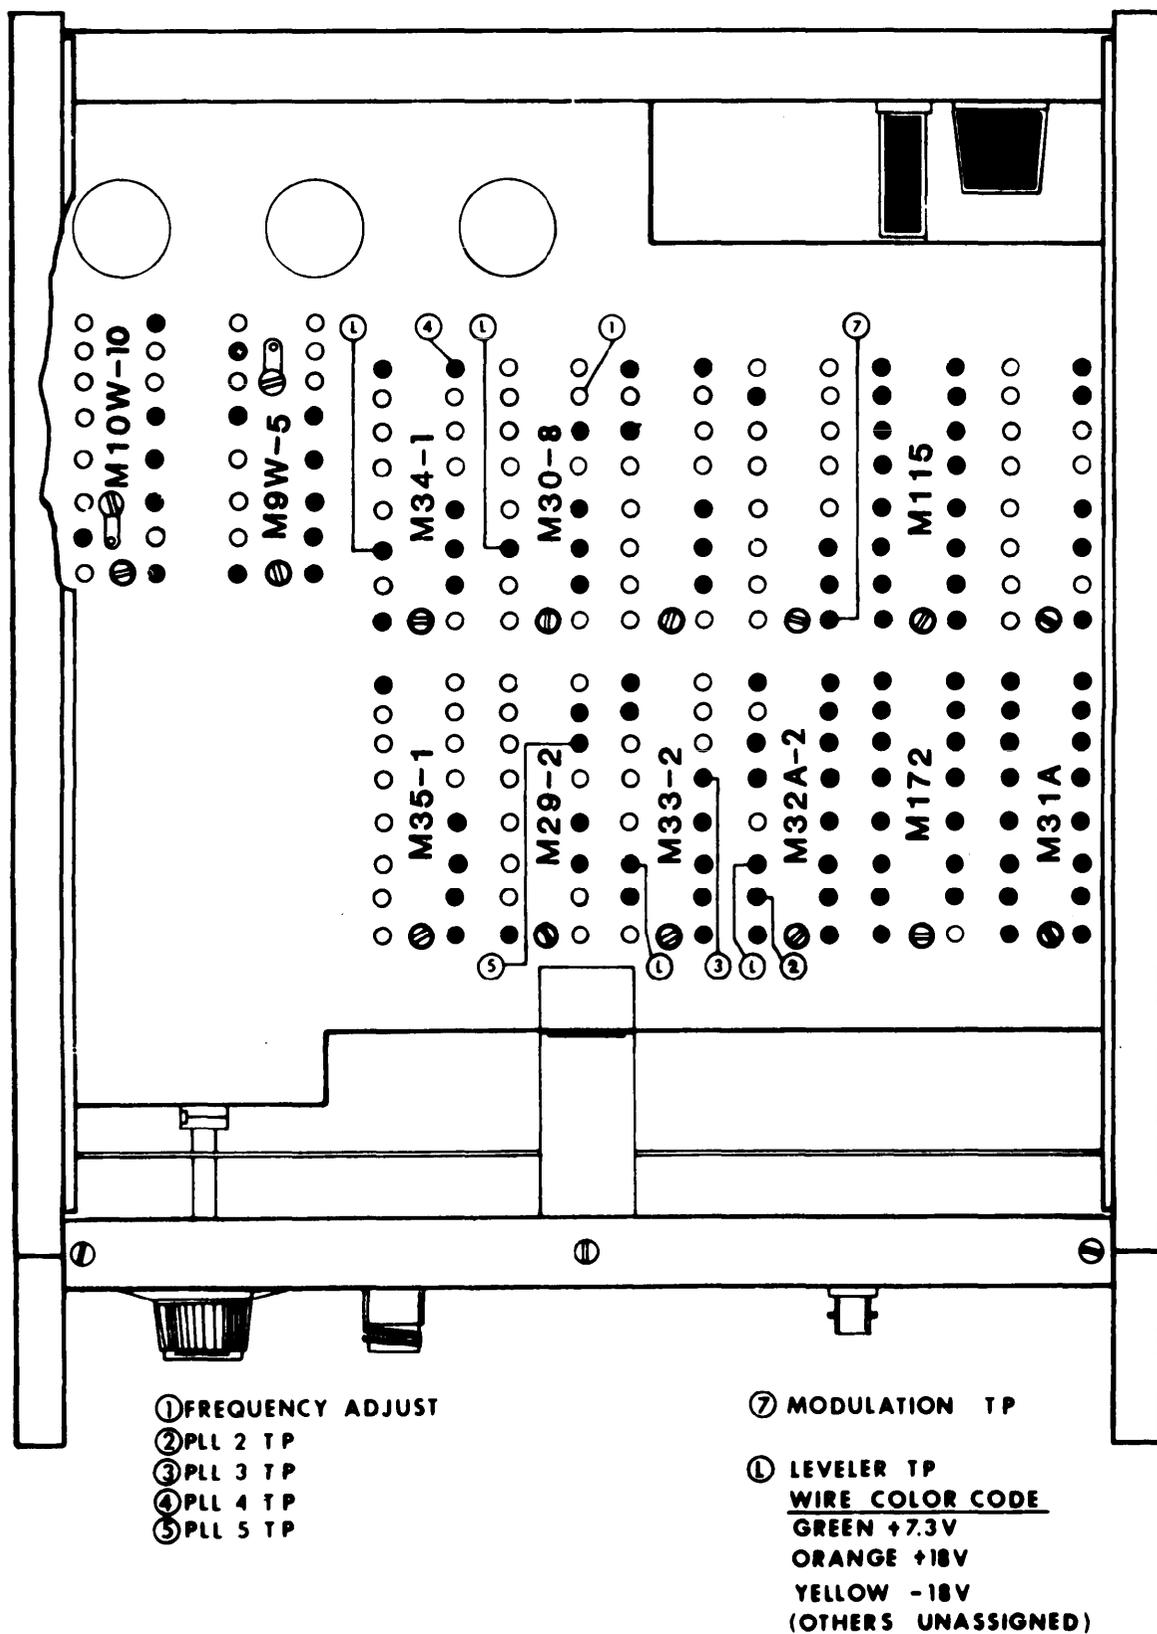
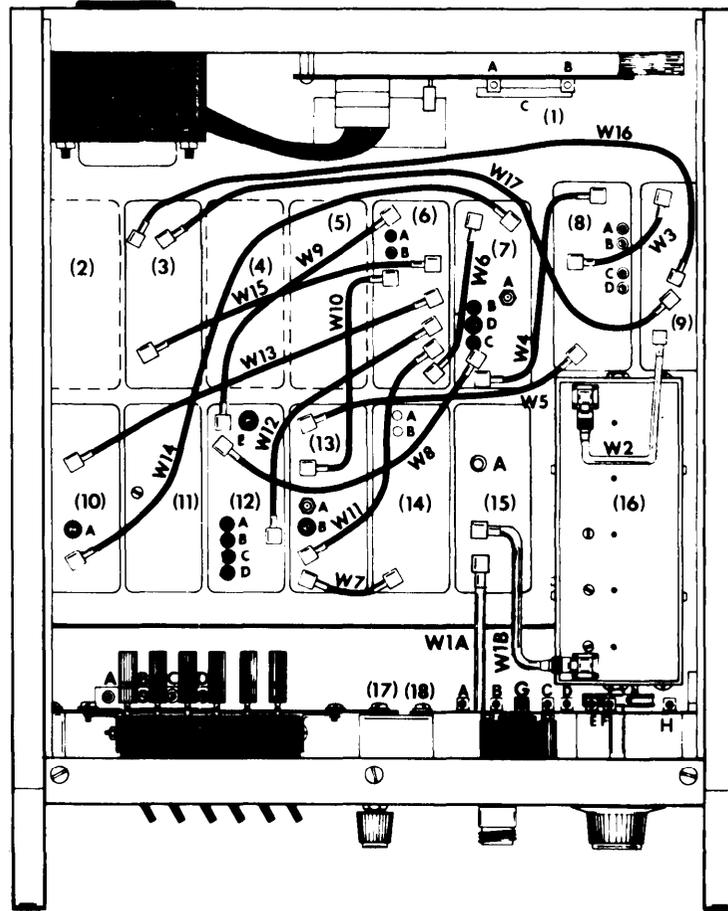

Figure 5-5. Bottom View
Figure 5-6. Top View
Adjust the M30-8 Frequency Adjust trimmer (Figure 5-5) for a minimum-frequency indication on the counter, then carefully turn the Frequency Adjust trimmer clockwise until the counter indicates the frequency selected by Lever/Indicator switches. Disconnect the counter from the RF OUT connector. A final frequency check will be covered in Section 5.3.12.
See Figure 5-5 for location of M32A-2 test points and Figure 5-6 for adjustment controls. Set the Lever/Indicator switches to 200.000 MHz and all other front-panel controls as in Section 6.3.4. Connect a digital voltmeter to M32A-2 pin 14. This voltage should be between +0.5 and +2.5 VDC. If it is not, carefully adjust both Crystal Reference trimmers (A and B) to produce a minimum reading on the voltmeter. Set the Lever/Indicator switches to 239.000 MHz and note that the DVM reading is still within the above limits.
PLL 3 consists of two modules, M33-2 and M9W-5. The test point is on module M33-2 (Figure 5-5), while the adjustment controls are on module M9W-5 (Figure 5-6). Set the Lever/Indicator switches to 250.000 MHz and all other front-panel controls as in Section 5.3.4. Connect the scope vertical input (DC, 1 V/division) to M33-2 pin 5. Adjust M9W-5 control (D) for a 0 V scope indication.
Adjustment controls for PLL 5 are located on Modulation Board C316-6 and module M29-2 (Figure 5-6), while the MOD TP is located on under side of the chassis (Figure 5-5). Connect a frequency counter to the front-panel RF OUT connector and a digital voltmeter to the MOD TP. Set the front-panel controls as follows:
Set the OUTPUT VERNIER fully ccw; then, adjust Meter Board pot (B) until the METER needle again bisects the dot at the left end of the METER scale. See Figure 5-6 for the locations of the Meter Board pots. Set the OUTPUT VERNIER completely cw and adjust Meter Board pot (A) for a +3 dBm output METER reading.
Connect frequency counter to the instrument RF OUT connector, and set the front-panel controls as specified in Section 5.3.4. Note the frequency reading on the counter. If it does not agree with the selected frequency within accuracy specifications, very carefully adjust the M30-8 Frequency Adjust trimmer (see Figure 5-5) until the desired frequency is obtained.